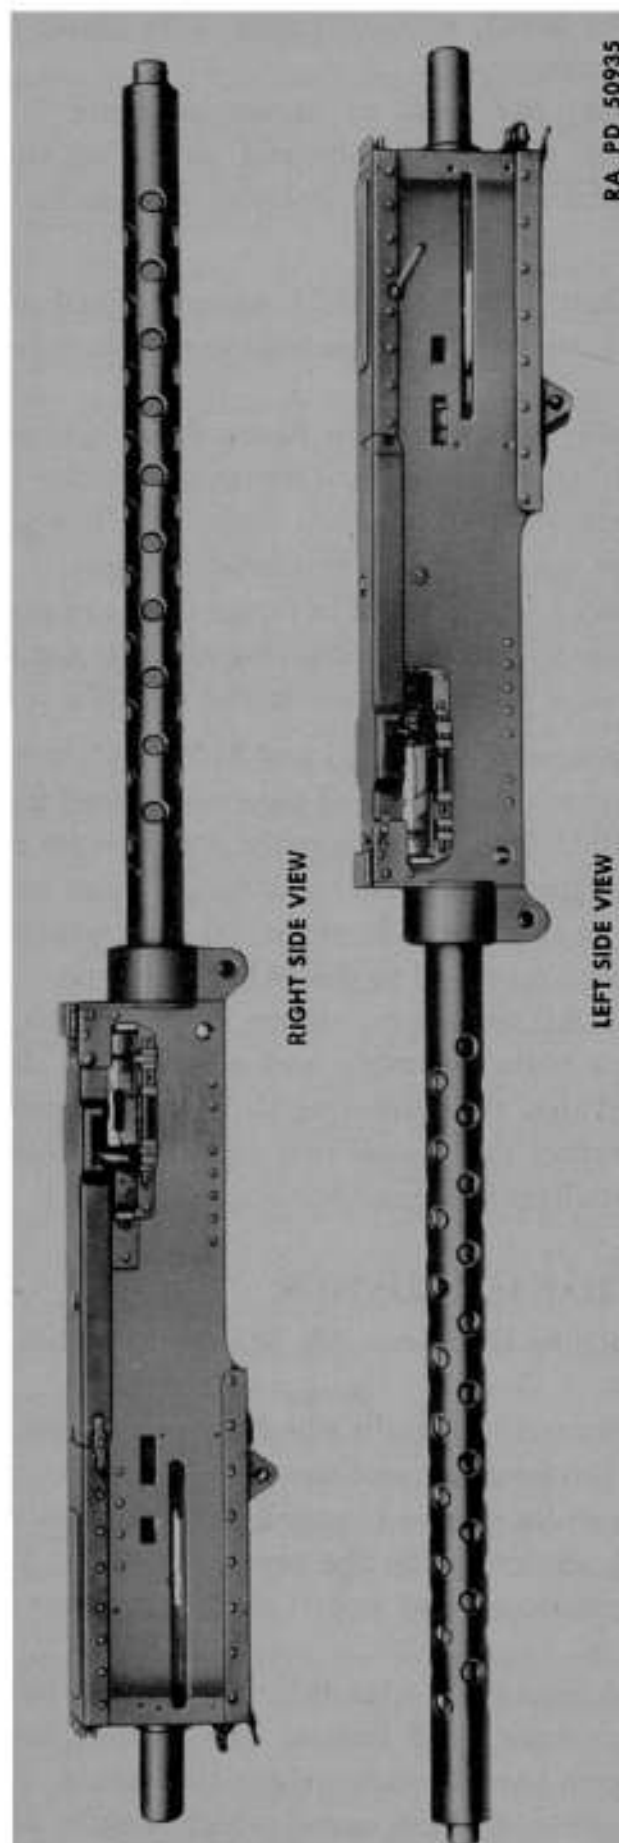

Figure 1—Browning Machine Gun, Cal. .50, M2, Aircraft, Basic
(1) The basic gun shown in figure 1 is equipped with a trigger bar, trigger bar pin assembly, bolt latch bracket, and a basic back plate with horizontal buffer assembly. It is installed in the wings, fuselage, or in the nose of the airplane. The Army Air Forces will supply the mechanism to retract the recoiling portion of the gun if required in turrets, and also will supply solenoids to fire the gun.
(5) The preceding paragraphs describe specific applications for the basic gun; however, other installations of the basic gun are made by various combinations of these gun parts.
(6) The check lists appearing beneath figures 1 to 10, inclusive, designate assemblies and parts which should be assembled to, or supplied with, the gun in question, when issued. When such guns are received, care should be taken to see that such assemblies and parts are included.